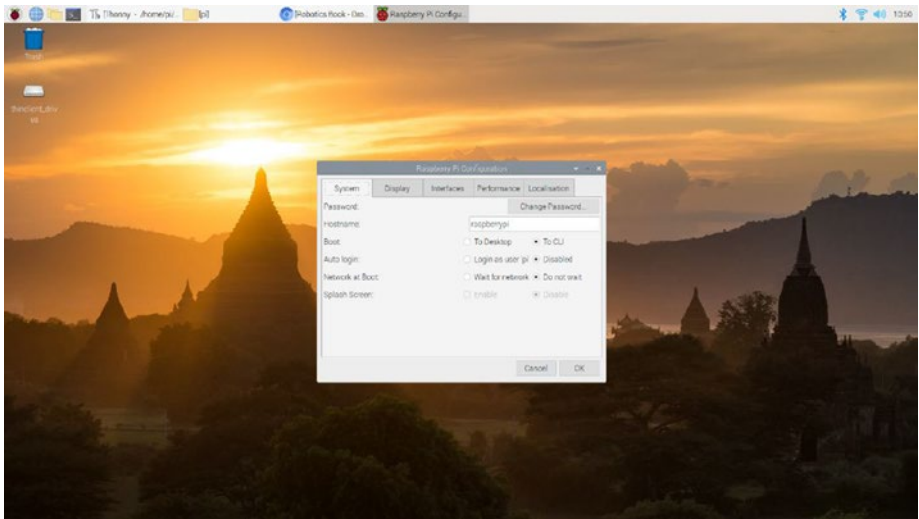

Figure 2-5. *Raspberry Pi Configuration*
2. Click Preferences and then Raspberry Pi Configuration. It should open a window that looks like Figure 2-5.